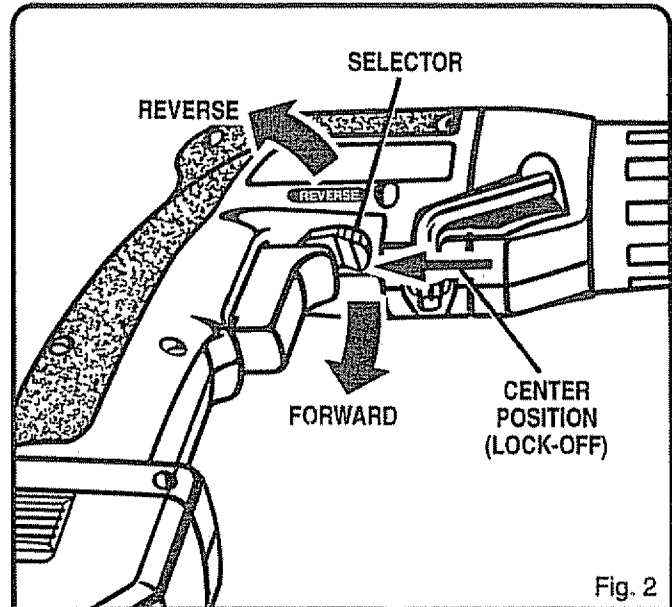

Fig. 2
- Lock switch trigger on your drill by placing the direction of rotation selector in center position. *See Figure 2.*
*See Figure 2.*